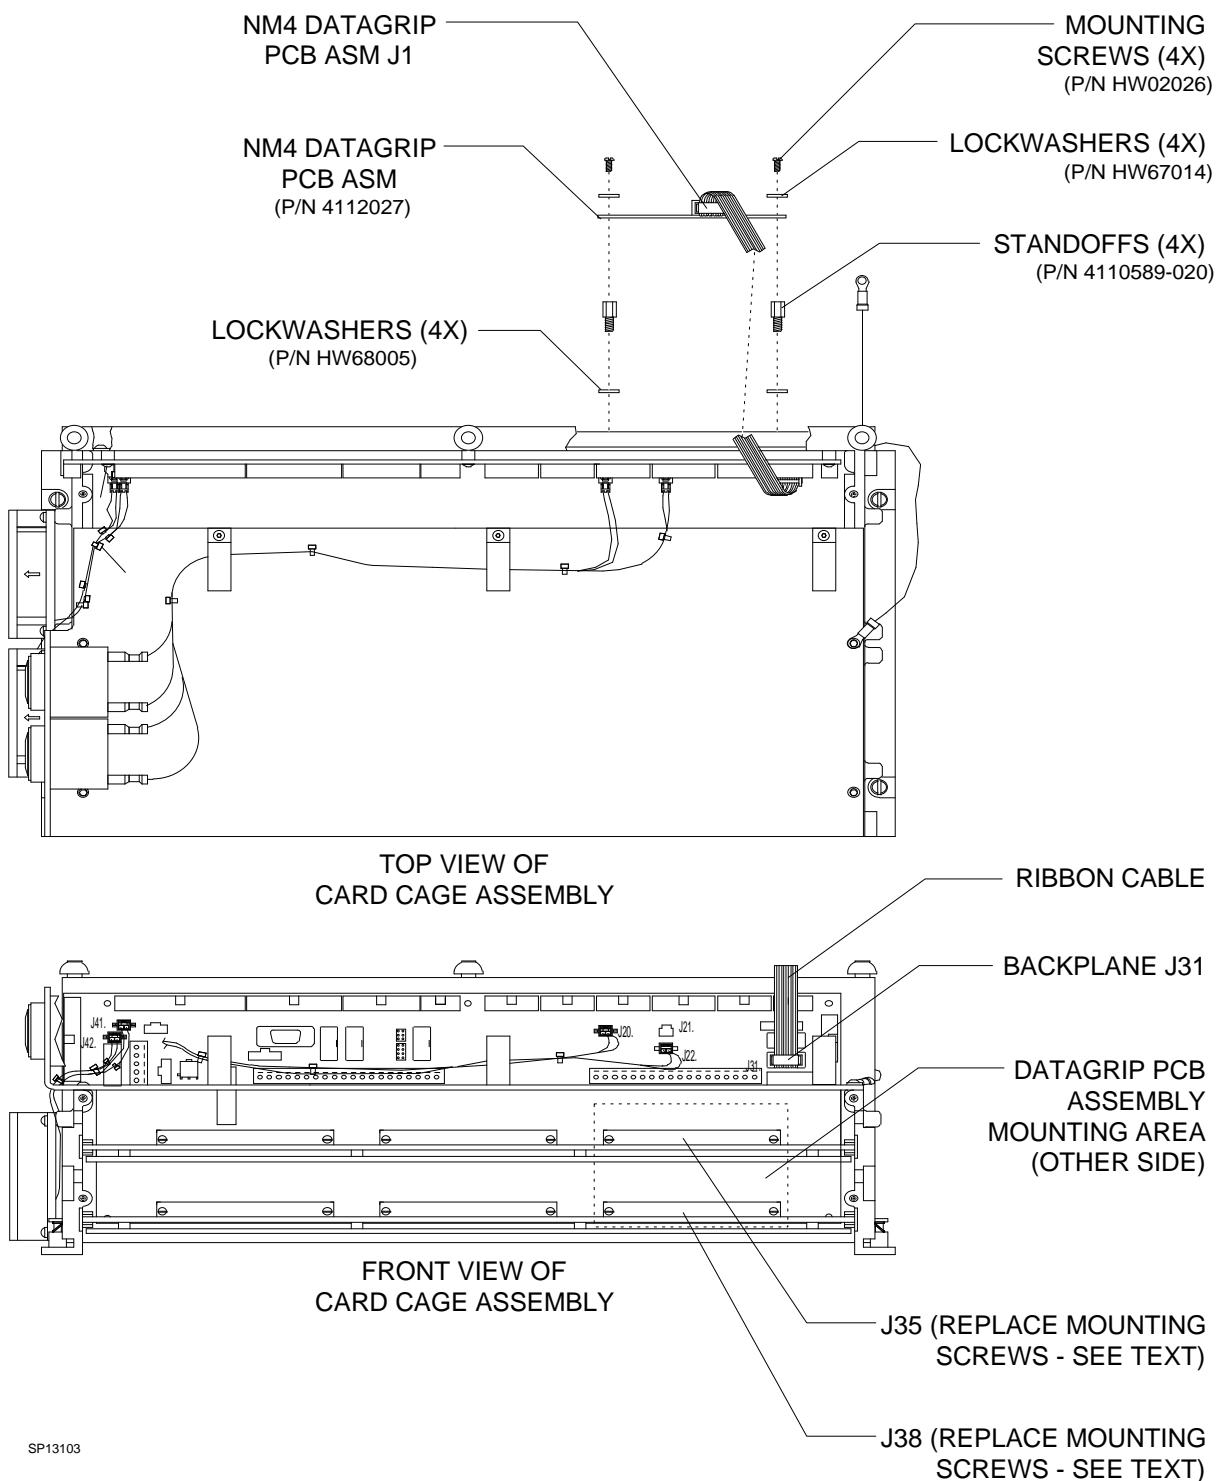

Figure 3: NM4 DATAGRIP PCB ASSEMBLY INSTALLATION
14. Remove the four backplane mounting screws at connectors J35 and J38. See Figure 3.
16. On the front side of the backplane support, install four 3-48 x 5/16 in. hex standoffs (P/N 4110589-020) and #3 lockwashers (P/N HW68005) as shown in Figure 3.
18. Install the ten-cond. ribbon cable (P/N 4112579-005) from J1 on the NM4 Datagrip board to J31 on the backplane. See Figure 3.